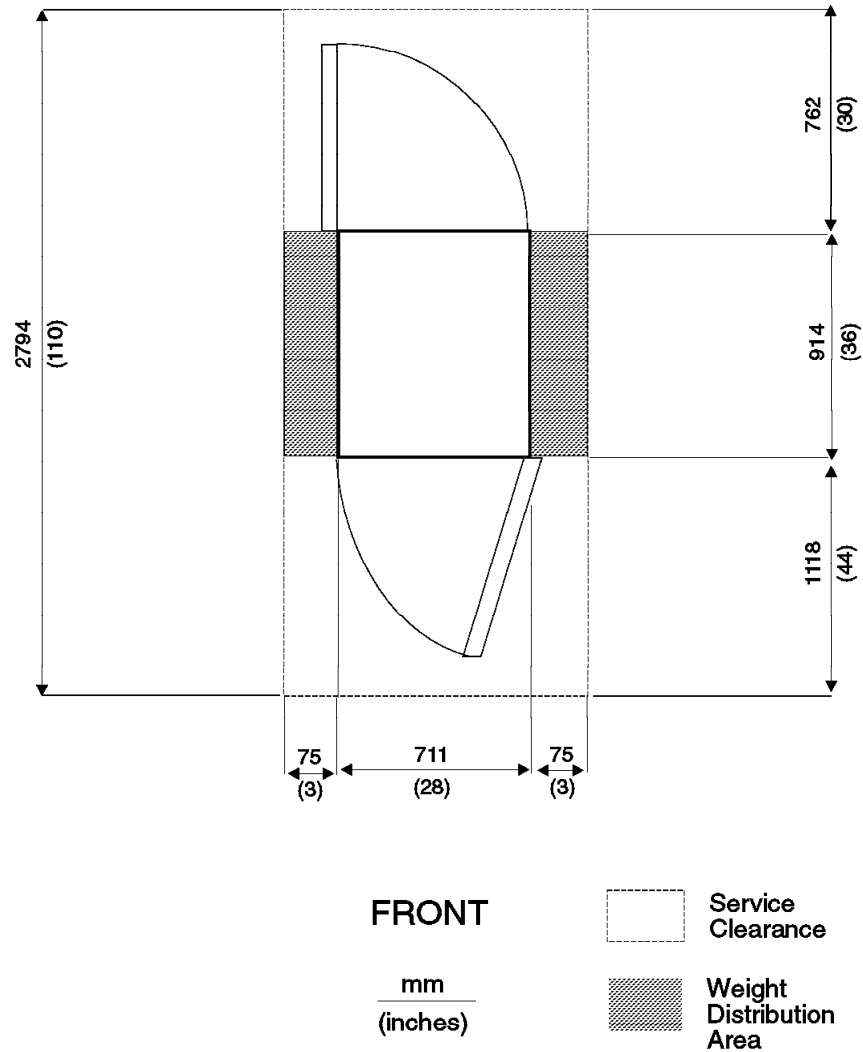
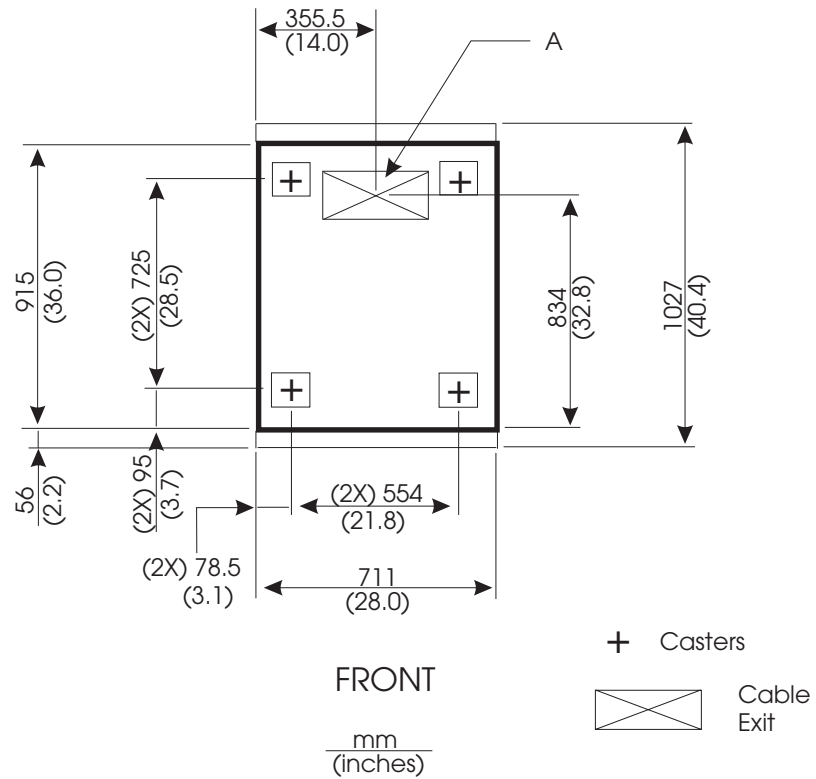

Figure 58. Service Clearances and Weight Distribution 1.25 m Frames (not to scale)
Figure 59. Floor Cutout Dimensions for the 1.25 m (49 in.) Frame
**Floor Preparation for 1.25 m Frames:** Refer to Figure 58 on page 273 for the required clearances between the 1.25 m frame and other adjacent units.
Refer to Figure 58 on page 273 for the required clearances between the 1.25 m frame and other adjacent units. For information about 1.25 m frame cable access points and leveling devices, see Figure 59 on page 274.
Service Area	Dimensions (See Figure 58 on page 273)
**Cut-away View of the 1.25 m (49 in.) Frames:** Figure 59 details the location and size of the casters, leveling pads, ac power cord, and input/output cable egress on the base of the 1.25 m frame. Dimensions are shown in mm and inches.
Service Clearances	See “Service Clearance Specifications for Frames” on page 267 and Figure 58 on page 273.